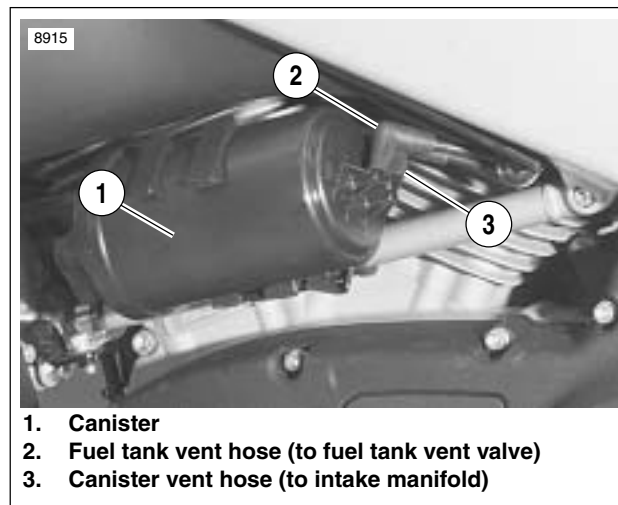

Figure 4-112. Carbon Canister Installation.
1. See Figure 4-112. Label and disconnect the fuel tank vent hose (2) and canister vent hose (3) from the canister.
2. See Figure 4-112. Attach fuel tank vent hose (2) to canister if disconnected.
2. See Figure 4-112. Connect two hoses to the canister. Make sure to push hoses all the way on to carbon canister fittings.